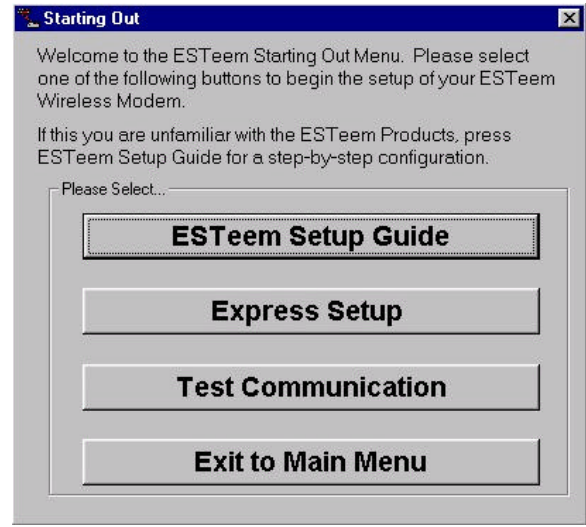

Figure 4: Starting Out Main Menu
1. Select ESTeem Starting Out from the main menu. A window like the one in Figure 4 will be displayed. If this is your first time using the ESTeem wireless modems, select ESTeem Setup Guide for a complete description of all ESTeem functions. Proceed to step 2.
14. Press Complete Setup. You have just configured all operating parameters within the ESTeem. If this is your first ESTeem you have programmed for testing, press the Express Setup button on the Starting Out Menu (Figure 4) to program subsequent ESTeem Modems. The Express Setup will allow you to quickly configure the remaining ESTeem modems without additional instruction. If you have at least two ESTeems programmed and wish to test communication, proceed to step 17.